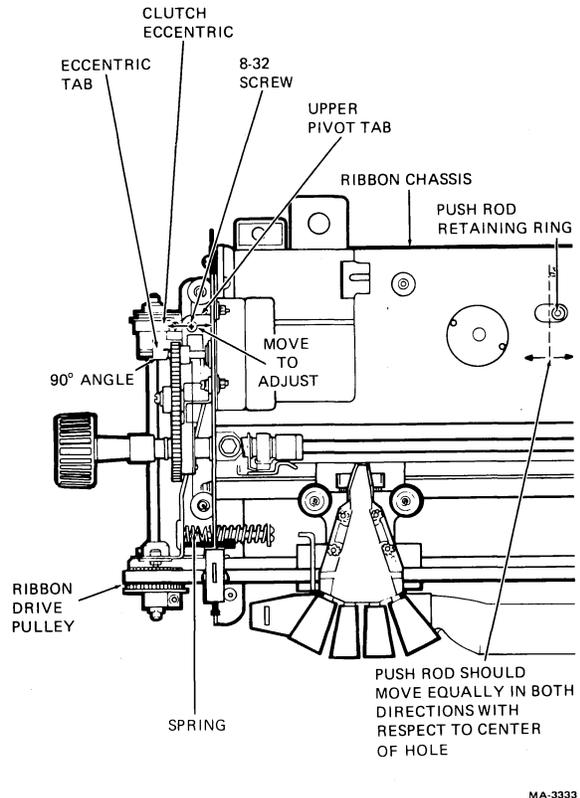

Fig. 7-Ribbon Drive Assembly Removal and Installation
- (d) Lift up the pushrod and remove the retaining ring that holds the pushrod in the ribbon chassis (Figure 7).
- (e) Rotate the ribbon drive pulley until the clutch eccentric is at its highest point (Figure 7).
- (f) Remove the 8-32 screw and washer that secures the ribbon drive to the upper pivot tab on the left-hand side plate (Figure 7).
- (a) Rotate the ribbon drive pulley on the new ribbon drive assembly until the clutch eccentric is at its highest point (Figure 7).
- (h) Rotate the ribbon drive and check the travel of the pushrod to either side of center of the elongated slot in the ribbon chassis. The travel should be equal on either side of center (Figures 7 and 8). To attain equal travel from center, move the ribbon drive upper pivot point in the direction of the shortest distance of travel. When travel is equal on both sides of the elongated hole, tighten the 8-32 upper pivot screw.